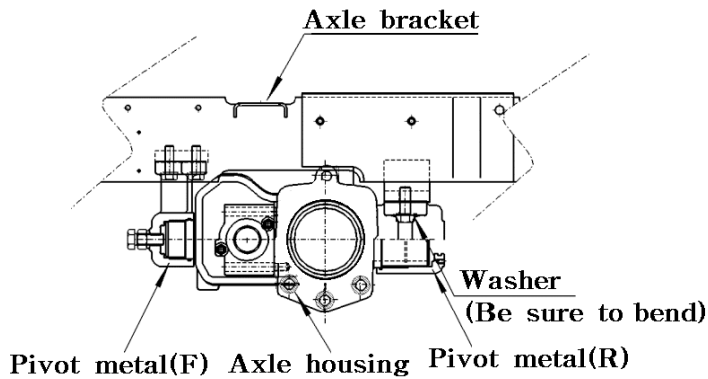

Fig.6-7
- The shim of the roll bush should reach position as shown Fig.6-7.In other words the seam should be in a position which is free from any load.